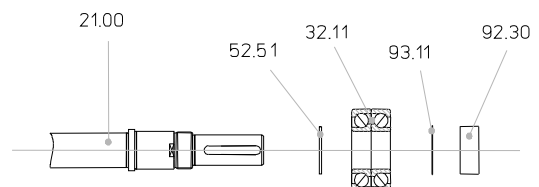

fig. 3
- Detach the shaft nut 92.30 and take off the safety tab washer 93.11. Then pull the inclined ball bearing 32.11 and the spacer 52.51 from the shaft 21.00. (fig. 3)